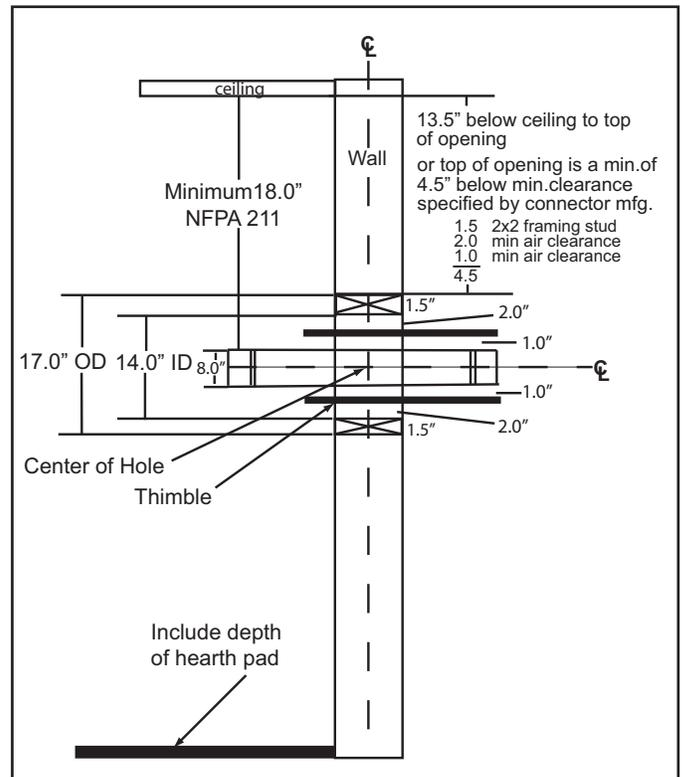

Figure 17.1
- Top of wall opening is a minimum of 13-1/2 inches (343mm) from ceiling or 4-1/2 inches (114mm) below minimum clearance specified by chimney connector manufacturer. NFPA 211 minimum vertical clearance of 18 inches (457mm) from chimney connector and ceiling or minimum recommended by chimney connector manufacturer. **Figure 17.1.**
1. Open inside wall at proper height for the chimney connector to entry the masonry chimney. **Figure 17.1**
3. Construct a 17 inch x 17 inch (432mm x 432mm) outside dimension frame from 2 x 2 framing lumber to fit into wall opening. Inside opening of frame should be no less than 14 inch x 14 inch (356mm x 356mm). **Figure 17.1.**